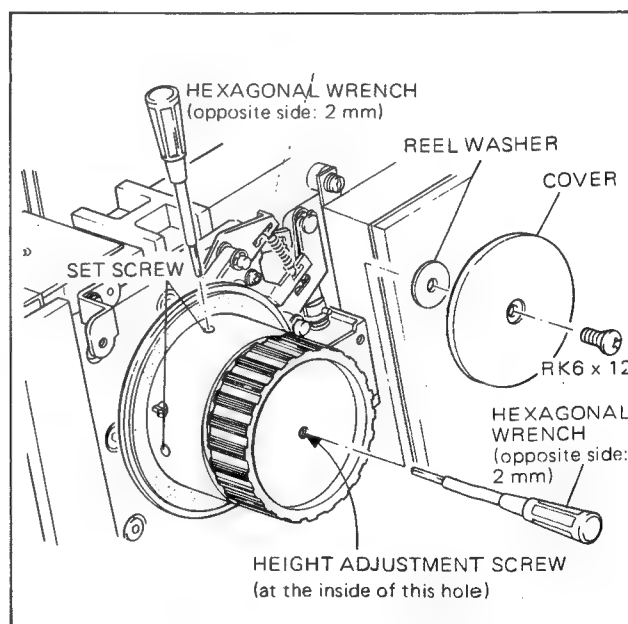

Fig. 6-5. S Reel Table Height Adjustment
- a. Remove the tape, cover and reel washer (see Fig. 6-5).